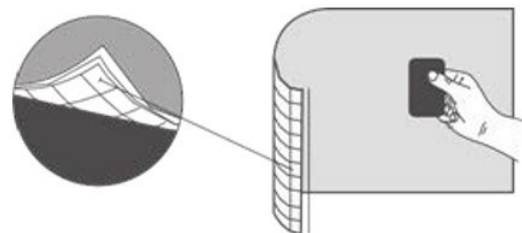

Figure 2. 3M™ Comply™ Air Release Channels
- Easy Application - 3M™ Comply™ Adhesive technology virtually eliminates air bubbles during installation, simplifying and speeding application (see Figure 2)